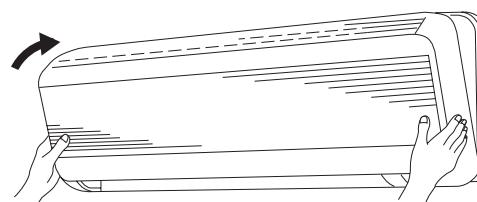

Fig. 3-29a
- (1) Close the flaps.
- (2) Reinstall the grille into the lower part while aligning its tabs on the upper part. (Fig. 3-29a) Insert the tabs in the slots and push the lower part of the grille back into position.